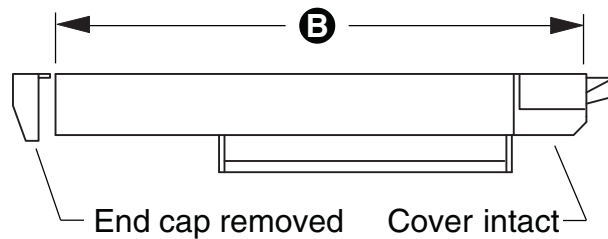

Figure 2-2
- 3.2. Measure device with end cap removed (Figure 2-2). **B** = .....